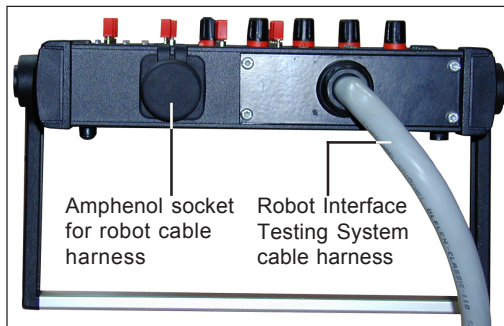

Fig.3 Rear view of Robot Interface Testing System
- Plug the Molex plug of the "Robot Interface Testing System cable harness" (Fig.3) onto the robot interface ROB 4000 / 5000
- into the 10-pole Amphenol socket in the housing of the Robot Interface Testing System (Fig.3)